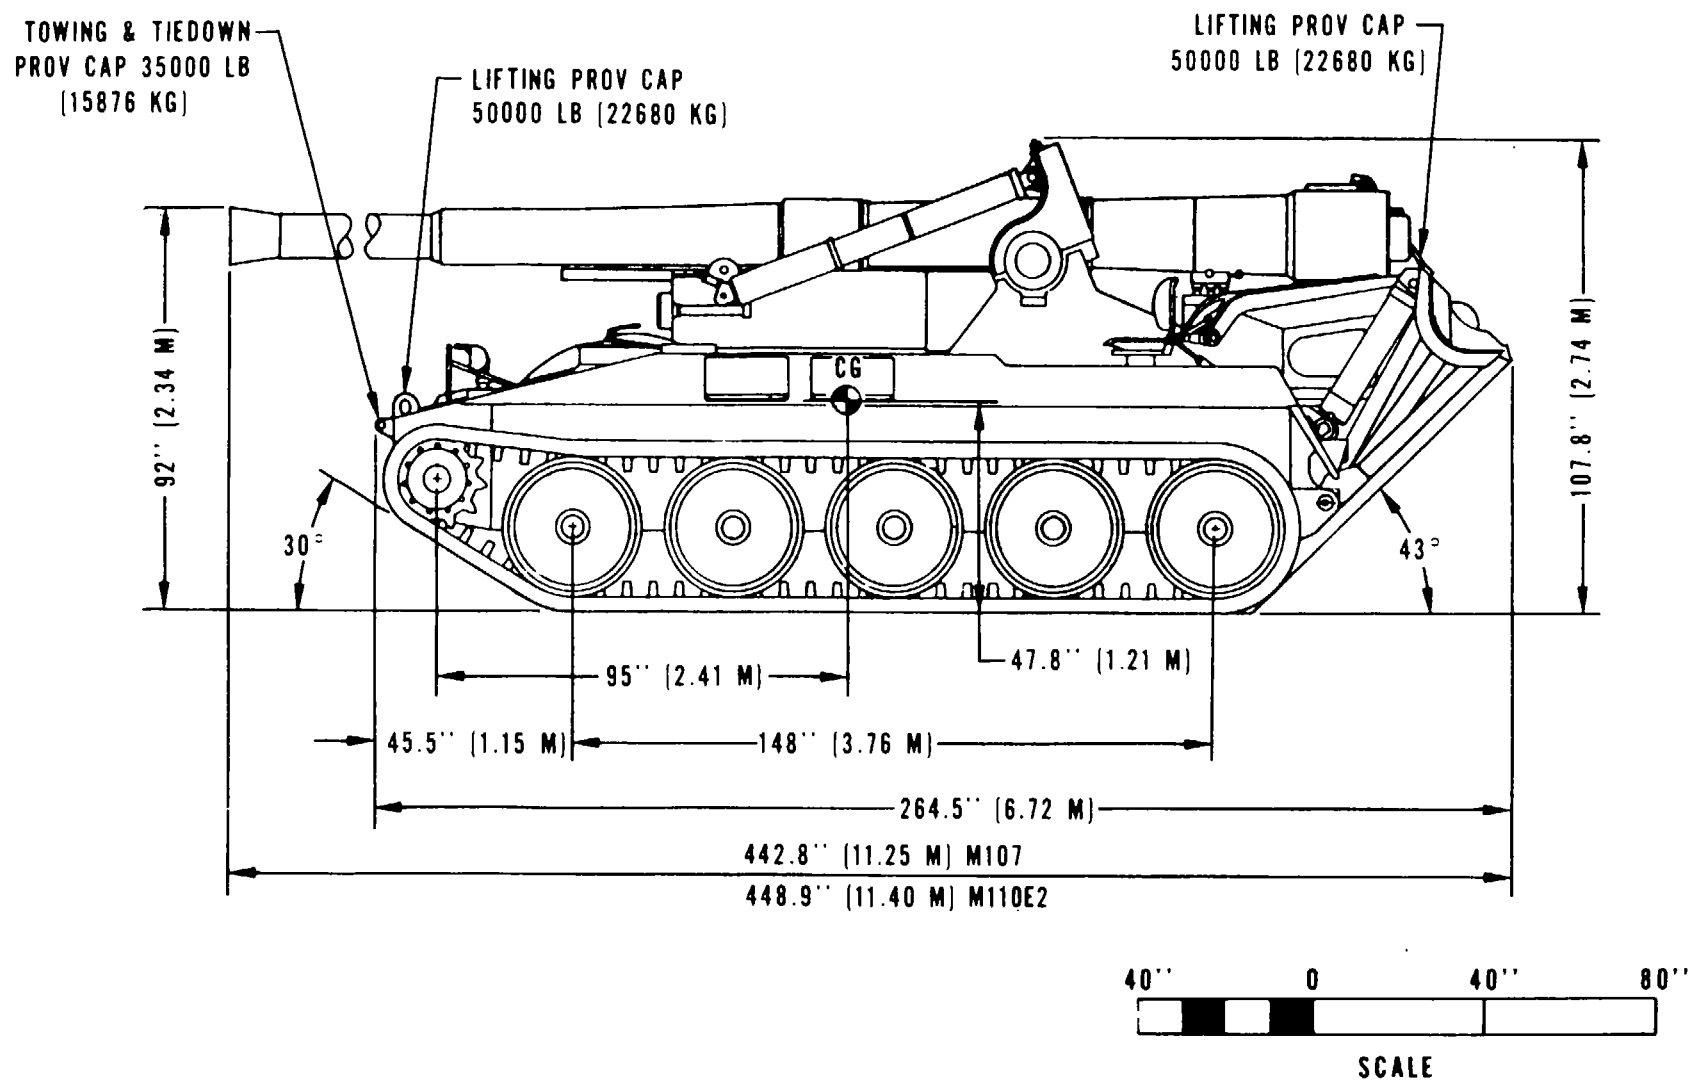

Figure 2-4. Side elevation, gun, M107, and howitzer, M110E2.
d. M11OE2 (fig 2-4). The M11OE2 is equipped with an 8-inch howitzer.
Data contained in figures 2-4 through 2-6 and table 2-1 are applicable to model number or National stock number (NSN) shown. Changes in model or NSN may affect transportability as related to guidance contained in this manual.